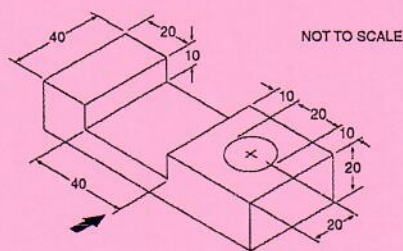

Figure 7 An engineering block
- g) Sketch orthographic views of Figure 7 in first angle projection on the sheet provided. Include all hidden details. [18 marks]